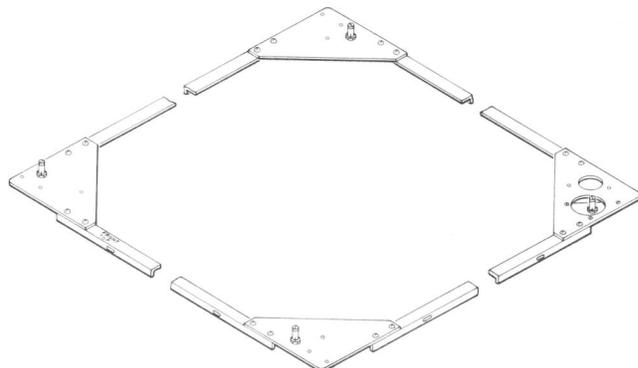

Fig. 14—KS-19580, List 28 Foundation Template
3.03 When necessary to provide a concrete base, a KS-19580, List 28 foundation template (Fig. 14) is used. Install the template as follows: